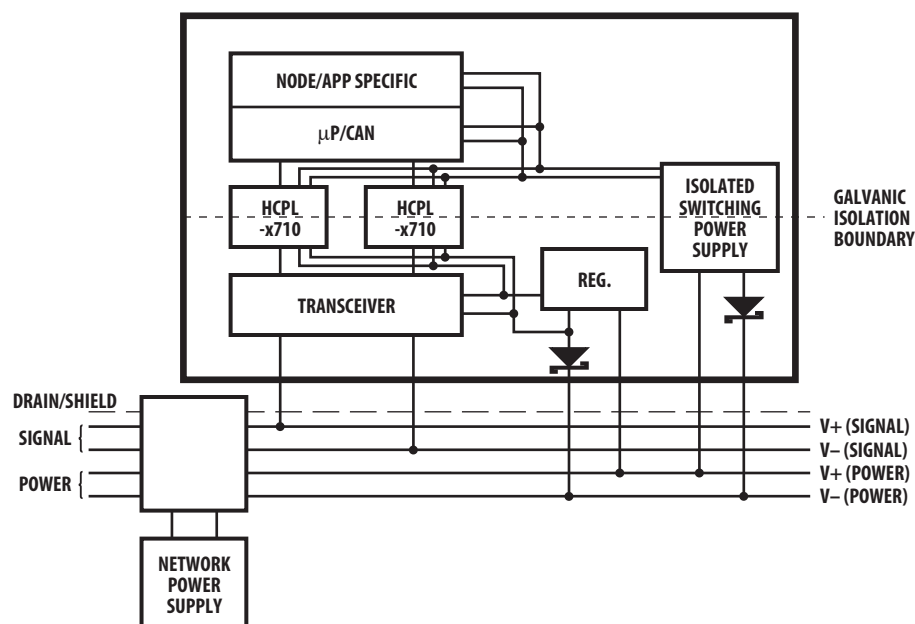
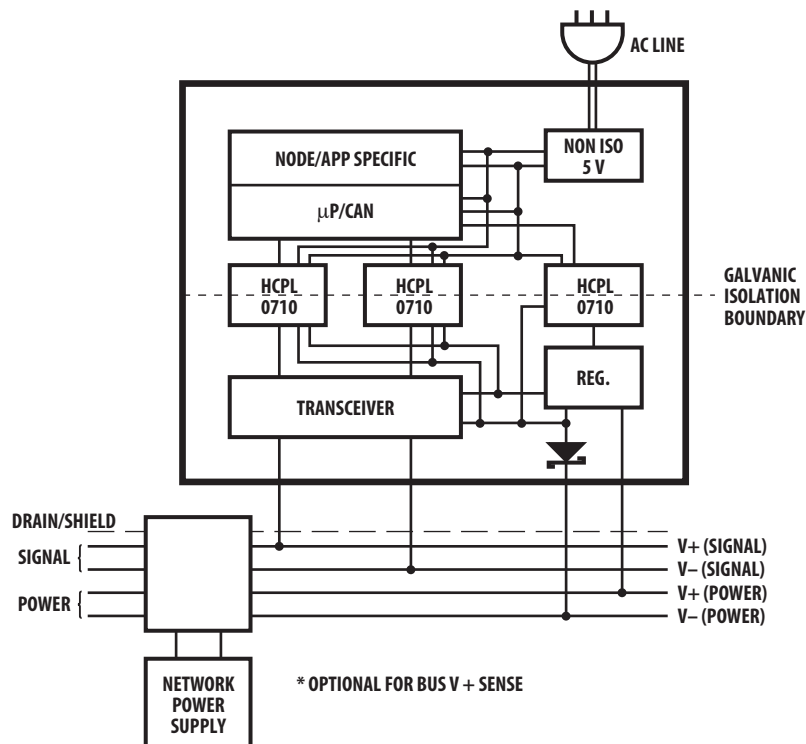
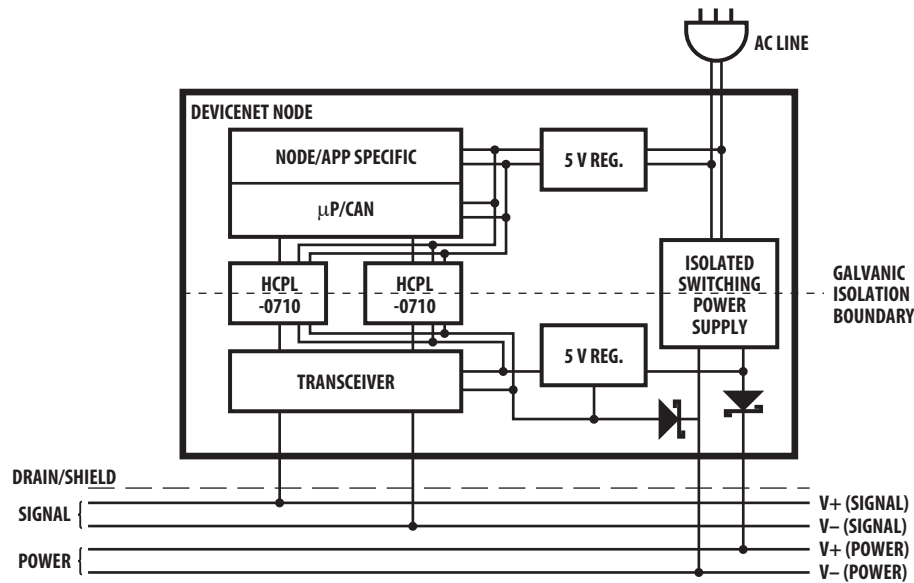

Figure 19. Isolated node powered by the network
Figure 20. Isolated node with transceiver powered by the network
Figure 21. Isolated node providing power to the network
With transmission rates up to 1 Mbit/s, both DeviceNet and SDS are based upon the same broadcast-oriented, communications protocol — the Controller Area Network (CAN). Three types of isolated nodes are recommended for use on these networks: Isolated Node Powered by the Network (Figure 19), Isolated Node with Transceiver Powered by the Network (Figure 20), and Isolated Node Providing Power to the Network (Figure 21).
This type of node is very flexible and as can be seen in Figure 19, is regarded as “isolated” because not all of its components have the same ground reference. Yet, all components are still powered by the network. This node contains two regulators: one is isolated and powers the CAN controller, node-specific application and isolated (node) side of the two optocouplers while the other is non-isolated. The non-isolated regulator supplies the transceiver and the non-isolated (network) half of the two optocouplers.
Figure 20 shows a node powered by both the network and another source. In this case, the transceiver and isolated (network) side of the two optocouplers are powered by the network. The rest of the node is powered by the AC line which is very beneficial when an application requires a significant amount of power. This method is also desirable as it does not heavily load the network.
It is suggested that the Bus V+ sense block shown in Figure 20 be implemented. A locally powered node with an un-powered isolated Physical Layer will accumulate errors and become bus-off if it attempts to transmit. The Bus V+ sense signal would be used to change the BOI attribute of the DeviceNet Object to the “auto-reset” (01) value. Refer to Volume 1, Section 5.5.3. This would cause the node to continually reset until bus power was detected. Once power was detected, the BOI attribute would be returned to the “hold in bus-off” (00) value. The BOI attribute should not be left in the “auto-reset” (01) value since this defeats the jabber protection capability of the CAN error confinement. Any inexpensive low frequency optical isolator can be used to implement this feature.
Figure 21 shows a node providing power to the network. The AC line powers a regulator which provides 5 V locally. The AC line also powers a 24 V isolated supply, which powers the network, and another 5 V regulator, which, in turn, powers the transceiver and isolated (network) side of the two optocouplers. This method is recommended when there are a limited number of devices on the network that do not require much power, thus eliminating the need for separate power supplies.